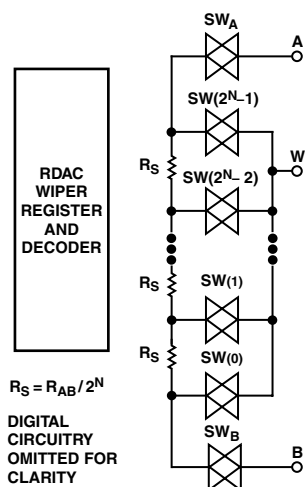

Figure 9. Equivalent RDAC Structure (Patent Pending)
The patent pending RDAC contains multiple strings of equal resistor segments, with an array of analog switches, that act as the wiper connection. The number of positions is the resolution of the device. The AD5231 has 1024 connection points allowing it to provide better than 0.1% set-ability resolution. Figure 9 shows an equivalent structure of the connections between the three terminals of the RDAC. The SWA and SWB will always be ON, while one of the switches SW(0) to SW(2N-1) will be ON one at a time depending on the resistance position decoded from the data bits. Since the switch is not ideal, there is a 15 Ω wiper resistance, RW. Wiper resistance is a function of supply voltage and temperature. The lower the supply voltage, or the higher the temperature, the higher the resulting wiper resistance. Users should be aware of the wiper resistance dynamics if accurate prediction of the output resistance is needed.
part. For VDD = 5 V, the wiper first connection starts at the B terminal for data 000H. RWB(0) is 15 Ω because of the wiper resistance and it is independent of the nominal resistance. The second connection is the first tap point where RWB(1) becomes 9.7 Ω + 15 Ω = 24.7 Ω for data 001H. The third connection is the next tap point representing RWB(2) = 19.4 + 15 = 34.4 Ω for data 002H and so on. Each LSB data value increase moves the wiper up the resistor ladder until the last tap point is reached at RWB(1023) = 10005 Ω. See Figure 9 for a simplified diagram of the equivalent RDAC circuit. When RWB is used, the A-terminal can be left floating or tied to the wiper.